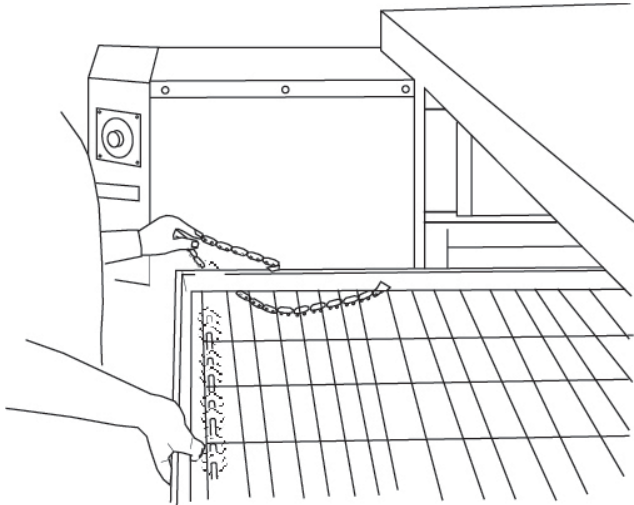

Figure 29.
4. Lift conveyor and remove chain (Figure 29).